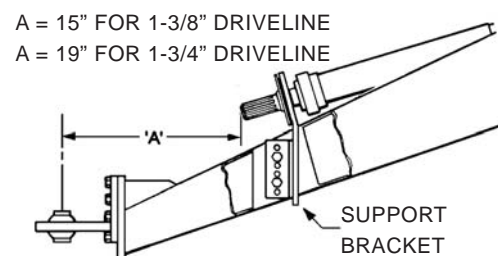

Figure 1-11 Driveline
The correct drive line adjustment is achieved by positioning the carrier bearing support bracket either forward, back, up or down and bearing mount angles up or down (see Figure 1-11 and 1-14). The rear (baler) driveline fits either size front driveline.
5. The PTO shaft bearing mount angles, ANG0027391, are designed to be used with either size (1-3/8" or 1-3/4") drivelines. Use quantity 4 of 1/2 x 1-1/2 bolts, lock washers and nuts, torque nuts to 120 ft. lbs. to secure angles to frame. The 3" flange angle bolts to the baler tongue side plates while the 2-1/2" leg mounts the carrier bearing support bracket, MNT0028883. With the 3" flange towards the front of the baler, dimension 'A' is 19", with angle flanges towards rear of baler, dimension 'A' is 15" (see Figure 1-11). (see parts manual for more information).